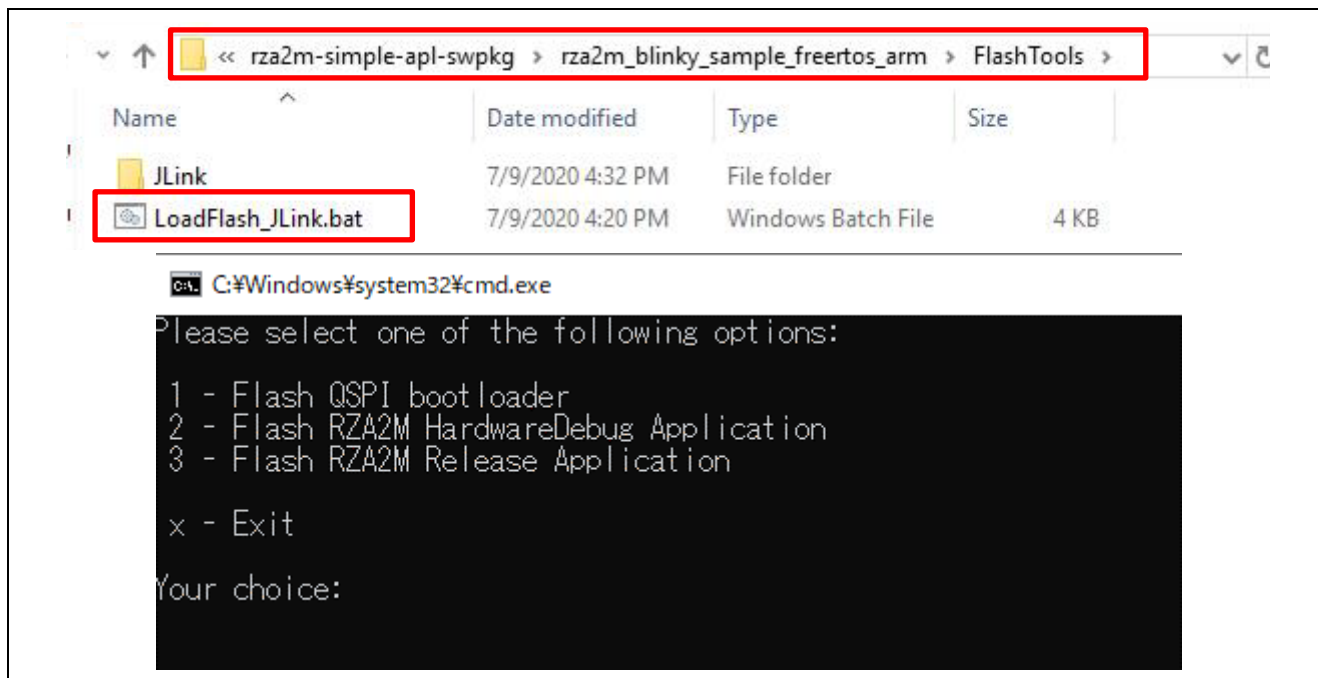

Figure 3-9 Start downloading to the evaluation board
- Download to the evaluation board using J-Link (or J-Link Lite). This section describes the “rza2m_blinky_sample_freertos_arm” project, but the same applies to other projects. When “LoadFlash_JLink.bat” in the rza2m_blinky_sample_freertos_arm\FlashTools folder is executed, the following command prompt screen will start. This is shown in Figure 3-9.